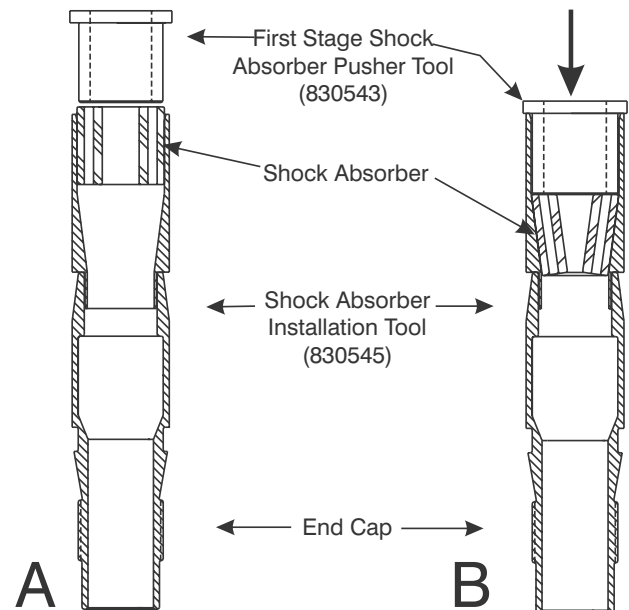

Figure 9-5. Compress Shock Absorber in Installation Tool
3. Center the First Stage Shock Absorber Pusher Tool, 830543, over the Shock Absorber as shown in Figure 9-5-A.
4. Compress the Shock Absorber in Installation Tool 830545 as shown in Figure 9-5-B.